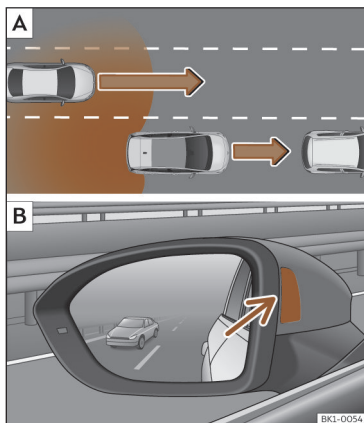
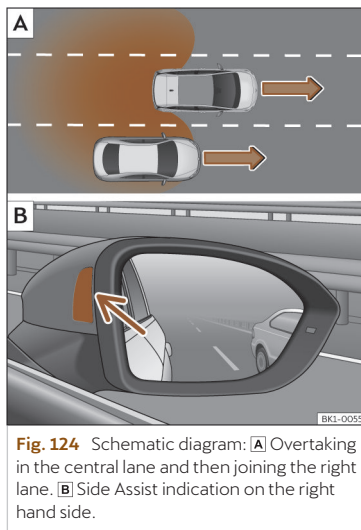

Fig. 123 Schematic diagram: **A** Overtaking with traffic behind the vehicle. **B** Side Assist indication on the left hand side.
Fig. 124 Schematic diagram: **A** Overtaking in the central lane and then joining the right lane. **B** Side Assist indication on the right hand side.
In the following situations, an indication will be displayed in the control lamp >>> **Fig. 123 B** (arrow) or >>> **Fig. 124 B** (arrow):
- When being overtaken by another vehicle >>> **Fig. 123 A**.
- When passing another vehicle >>> **Fig. 124 A** with a speed differential of approx. 10 km/h (6 mph). If the vehicle is passing at a considerably higher speed, no indication will be displayed.